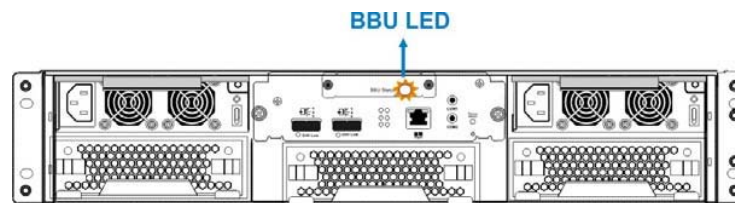

Figure 5-8: BBU LED
Step 4. Reset the subsystem if the BBU is replaced online. After a system reset, the LED should start flashing to indicate that the BBU is being charged. When the BBU is fully charged, the LED will go off. (See **Figure 5-8**)